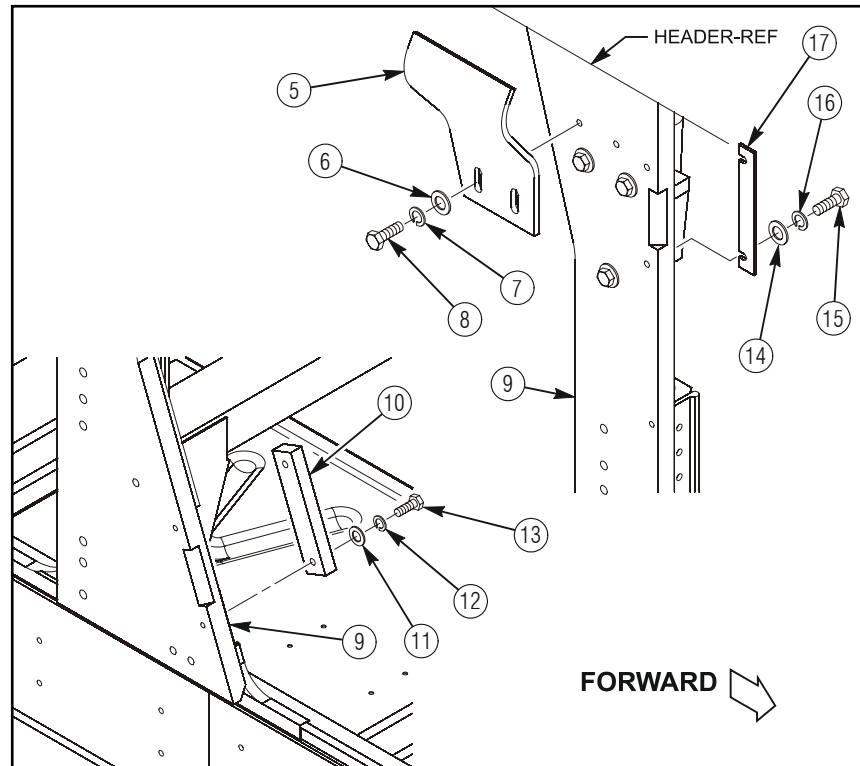

Figure 20b.
22. Apply a bead of sealant at the joint between header and B-pillar plate (9). Refer to figure 20b.
(6) as shown in figure 20b. Tighten capscrews (8) to 21 lb-ft (28.5 N·m).
24. Install 6435293-01M1 lower B-pillar latch ramp (10) on right B-pillar plate (9) with two 4397000-038 capscrews (13), 4397004-007 lockwashers (12), and 4397005-013 washers (11) as shown in figure 20b. Tighten capscrews (13) to 21 lb-ft (28.5 N·m).
25. Install 6435292-01M1 upper B-pillar latch ramp (17) on right B-pillar plate (9) with two 4397000-033 capscrews (15), 4397004-007 lockwashers (16), and 4397005-013 washers (14) as shown in figure 20b. Tighten capscrews (15) to 21 lb-ft (28.5 N·m).